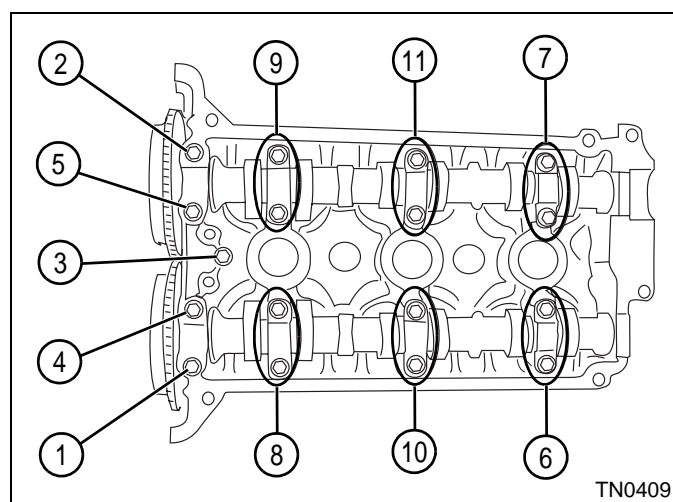

Figure 7-47
See Figures 7-47 and 7-48.
10. Loosen the camshaft housing bolts in sequence as shown in figure 7-47.
11. Remove camshaft housings (14). Note the locations and orientation using the stamped markings.
- The "I" or "E" markings (12) refer to intake or exhaust side camshaft.
- The numerical markings (13) refer to the cylinder the housing corresponds with. The cylinders are numbered 1—3, starting from the timing chain moving toward the rear of engine.
- The arrow marking (15) points toward the timing chain (front of engine).